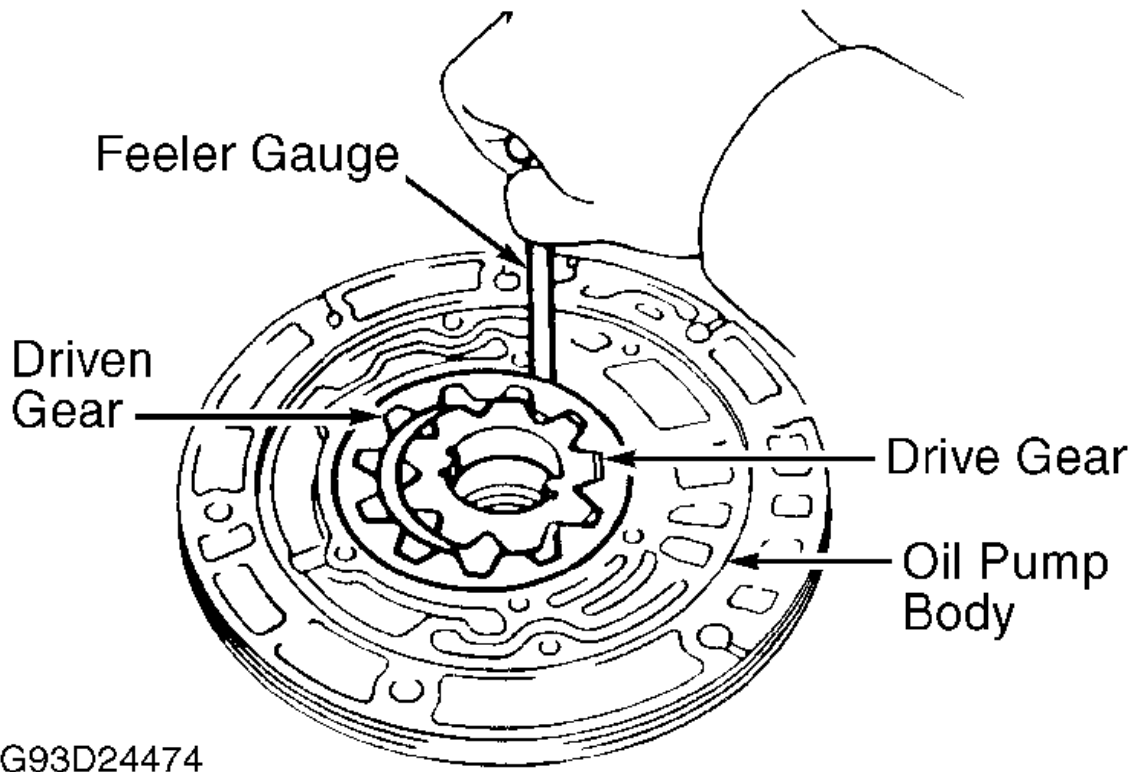

Fig. 31: Checking Oil Pump Driven Gear Clearance
1. Note position of oil pump gears. Clean all parts with solvent. Dry parts using compressed air. Ensure oil passages are clear. Check driven gear-to-body clearance. Push driven gear against one side of oil pump. Measure clearance between driven gear and oil pump body. See Fig. 31. Replace oil pump body if clearance is not within specification. See OIL PUMP CLEARANCE SPECIFICATIONS.